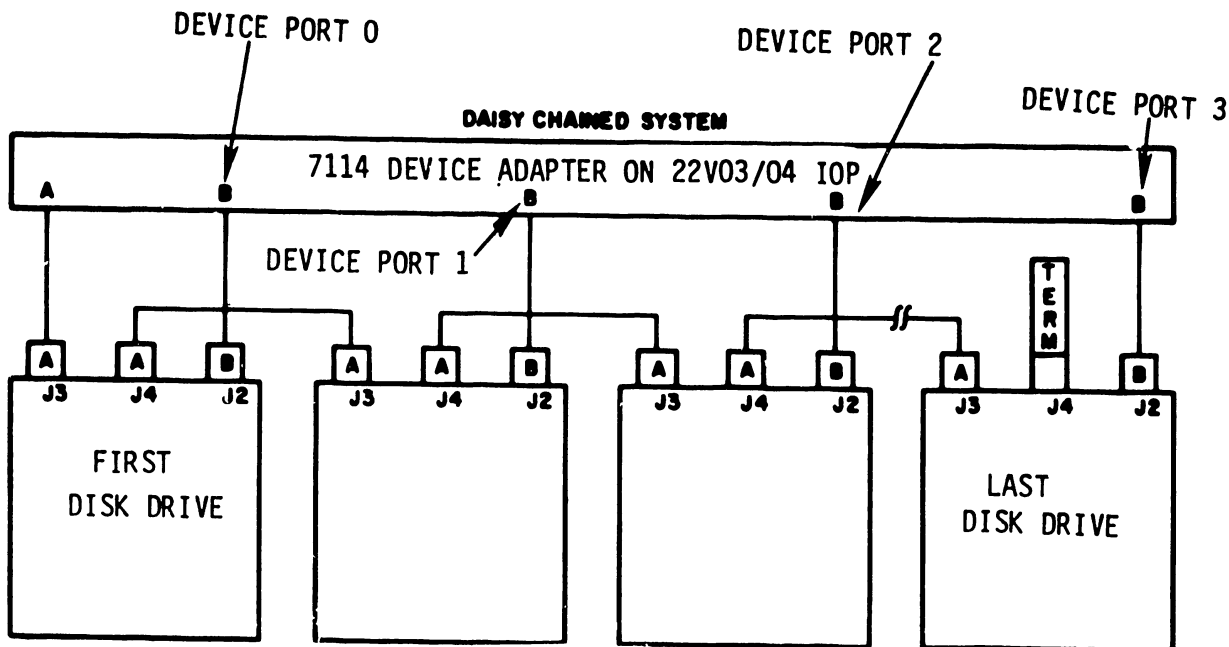

FIGURE 4-12 DAISY CHAIN CONFIGURATION
- C. If more than one disk drive is to be attached to the system, use 10 ft. "A" cables (PN 220-3031) and 24 ft. "B" cables (PN 220-3033-4) to daisy chain the additional drives in the configuration shown in Figure 4-12.